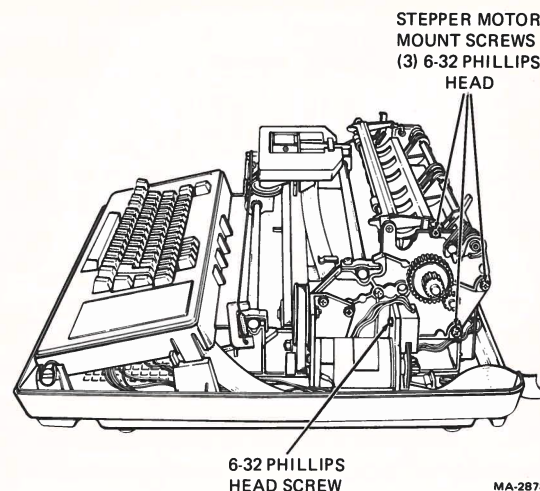

Figure 2-15 Stepper Motor Removal
8. Remove the three accessible (6-32) Phillips-head screws that secure the stepper motor to the right side plate (Figure 2-15).
9. Remove the ground strap and note its position (Figure 2-15).
10. Remove the encoder assembly by removing the (6-32) Phillips-head screw (Figure 2-15).